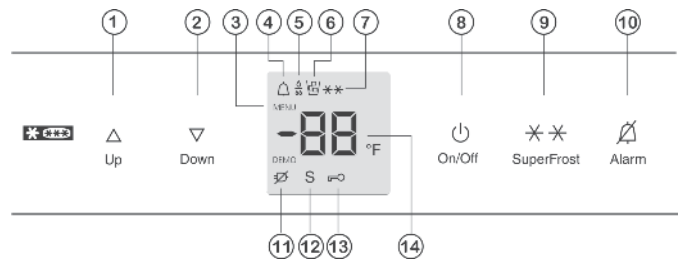

Fig. 2
- ▶ Press On/Off button *Fig. 2 (8)*.